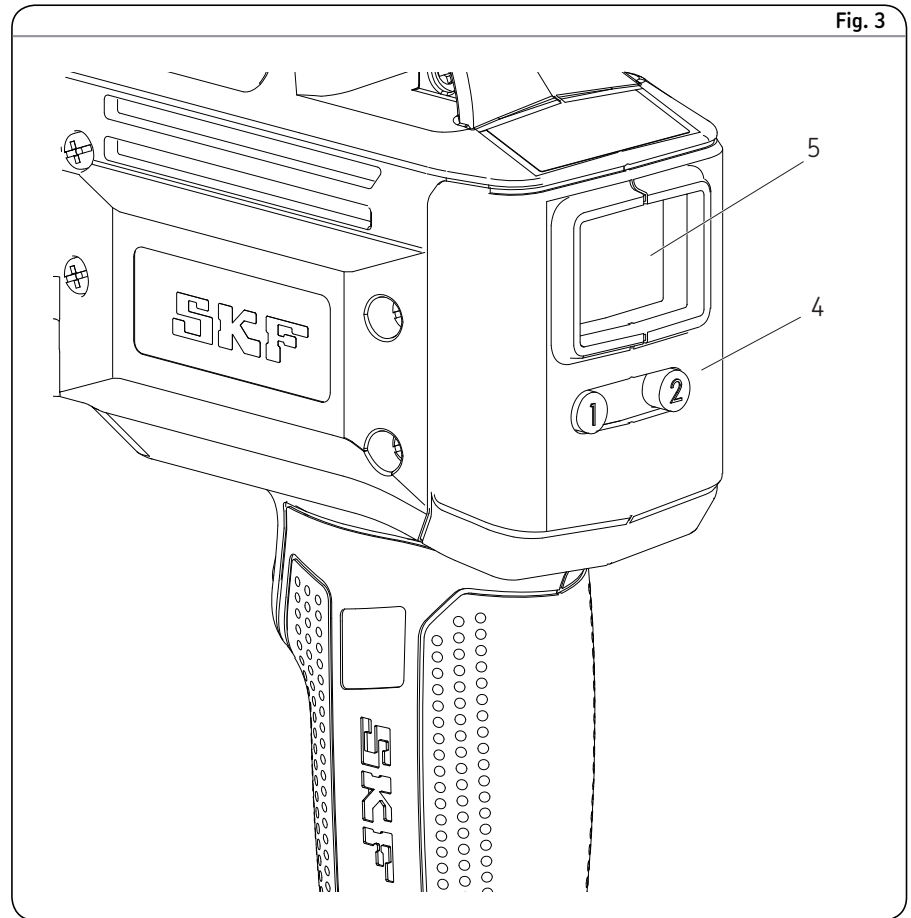

Fig. 3
- 4 Press button "1" (4) 3 seconds to clear display (5) of previous reading (→ fig. 3, pg. 11).
- Push button "1" (4) (→ fig. 3)
Switch units of measure between ounces or grams by holding button "1" (4) for 15 seconds (→ fig. 3).